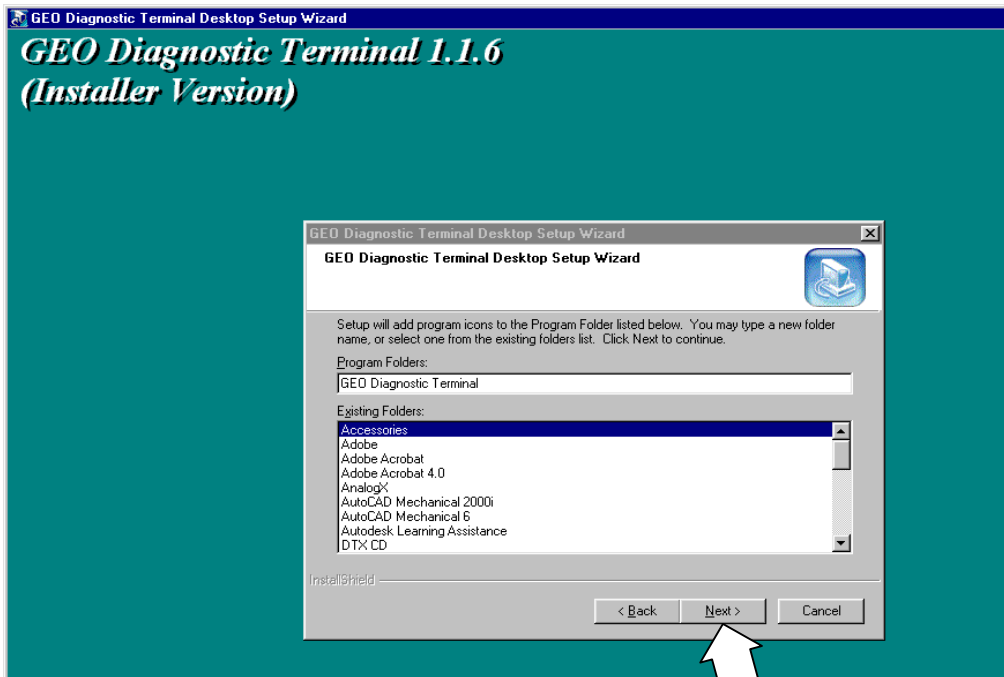

Figure 2-4
The following Installation procedure is for the Installers version, however the Maintainers version installs the same way, except that the installation splash screen displays: *(Maintainer Version)*. Refer to figure 2-4 for a typical installation splash screen.
5. The Program Folder Selection window is displayed (figure 2-4). Verify that the correct software version (e.g., **1.1.6**) and user version (**Installer** or **Maintainer**) are displayed in the upper left corner of the screen.